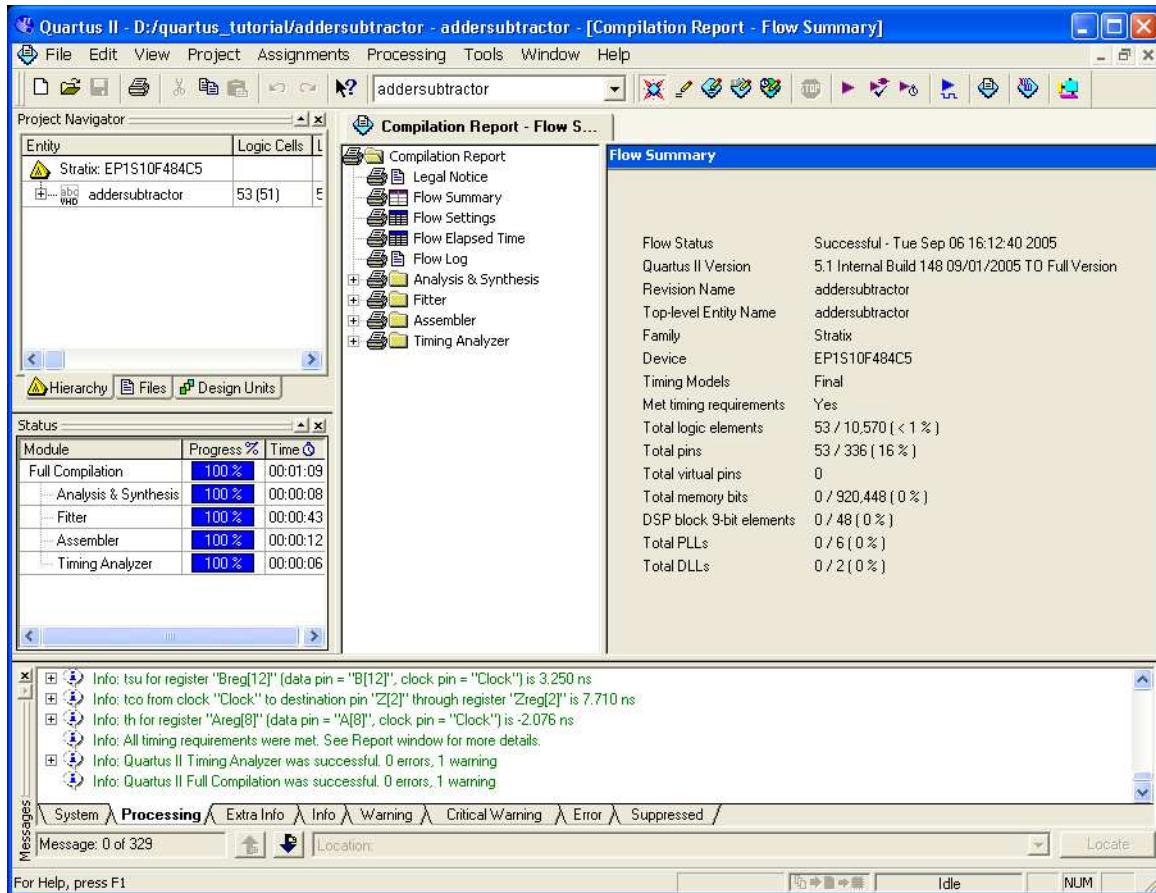

Figure 18: Display after a successful compilation.
1. Run the Compiler by selecting Processing > Start Compilation, or by clicking the toolbar icon . As the compilation moves through various stages, its progress is reported in the window on the left side. Successful (or unsuccessful) compilation is indicated in a pop-up box. Acknowledge it by clicking OK, which leads to the Quartus II display in Figure 18, in which we have expanded the Entity hierarchy in the top left corner to show all entities in the *addersubtractor* design. In the message window, at the bottom of Figure 18, various messages are displayed. In case of errors, there will be appropriate messages given.